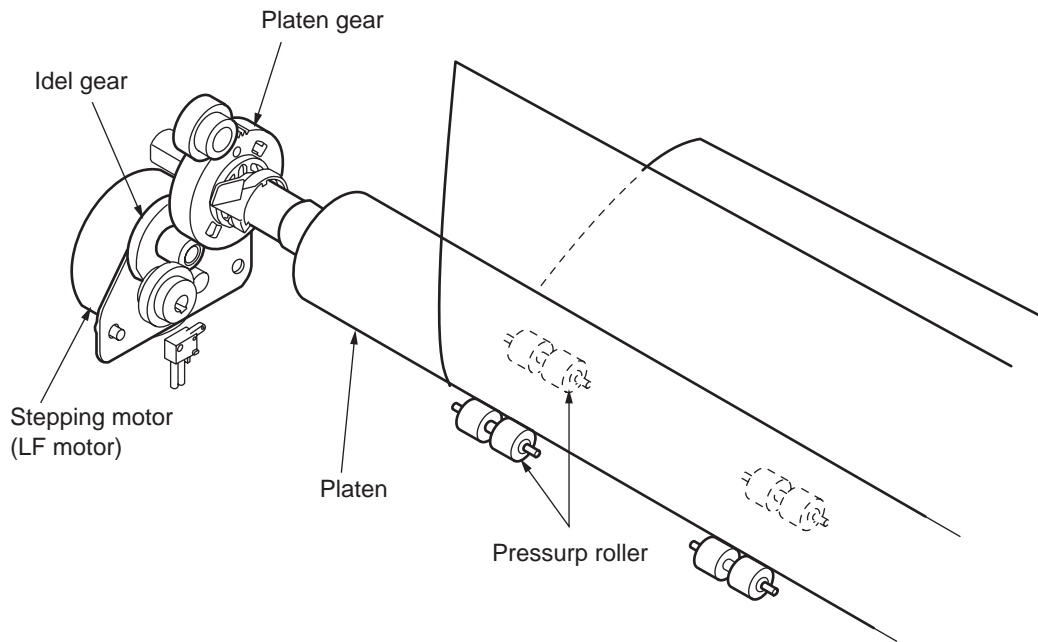

Figure 7
(2) Cut-sheet feeder operation (See Figure 7.)